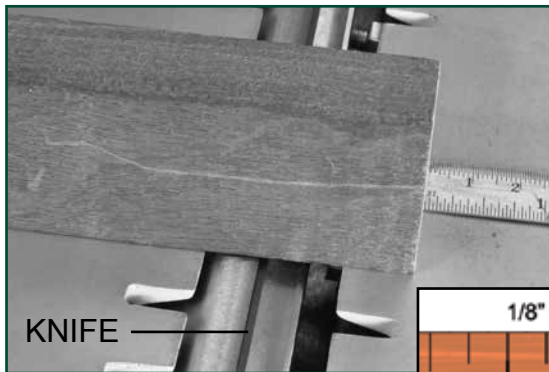

FIG. 34
1. Place the straight edge at either side of the cutterhead, resting on both feed tables. FIG. 34.